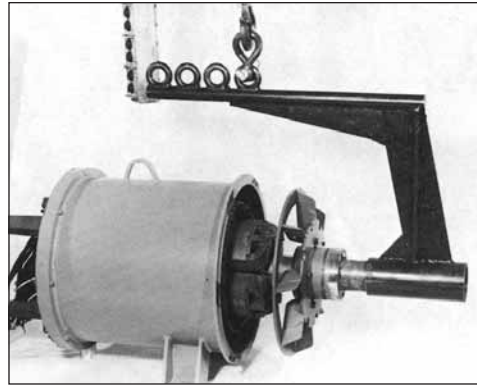

Figure 6-29
- Using a rotor lifting fixture and a suitable hoist, carefully remove the rotor assembly from the main stator and frame assembly through the drive end (figure 6-29).